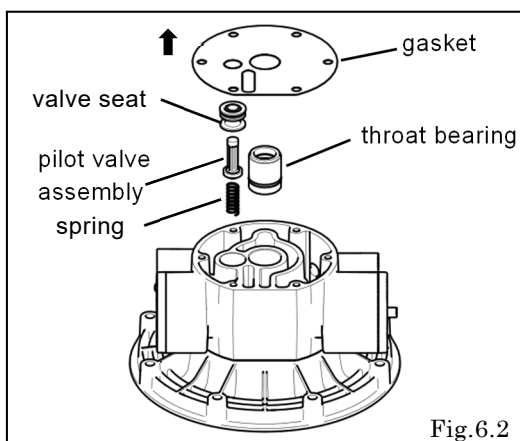

Fig.6.2
- Remove the gasket. <Fig.6.2>
- Draw out the pilot valve assembly, valve seat and spring. <Fig.6.2>
- Draw out the throat bearing. <Fig.6.2>